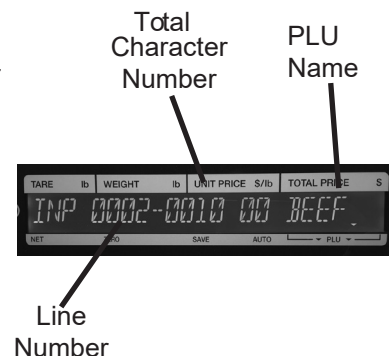

Figure 8-3
10. Enter the first line of data. If you only want one line of data, then press the Enter key. If you want additional lines of data, press the New Line key. Enter the second line of data, and press the Enter key to complete. See Figure 8-3. Display will show: P01-01 <SALE1>